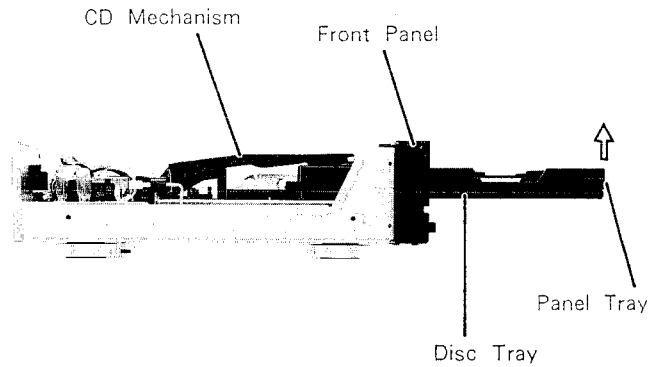

Figure 1
In Figure 1, all the track numbers are displayed and the track about to be played is displayed as 1 near the "DISC" () symbol.
- (1) After removal of the top cover, open the disc tray as shown in Figure 1.
- (2) Remove the panel in the arrow direction as shown in Figure 1.